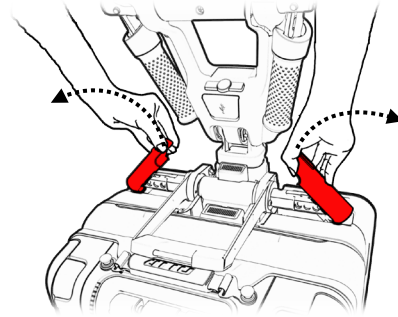

Figure 43
2. Open both separation levers (see Figure 43). In case the separation levers require too much force to operate, you should apply horizontal pressure on the driving console towards the center of the ATTO. This will release the pressure on the separation levers and will make them easier to open.